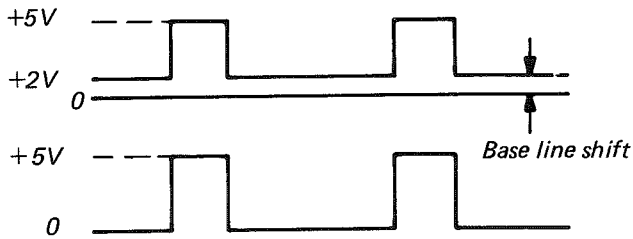

Fig. 6.2. Baseline offset.
- Rotate the BASE LINE OFFSET control and see the base line shift, fig. 6.2.